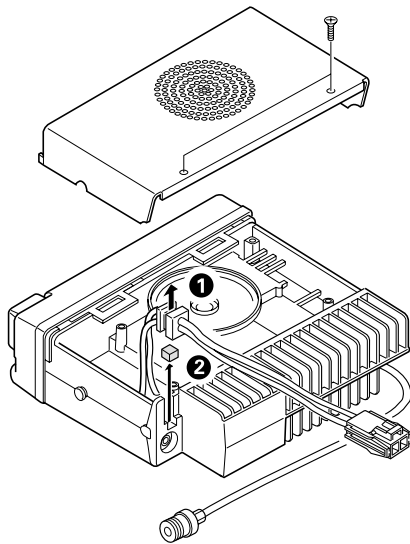
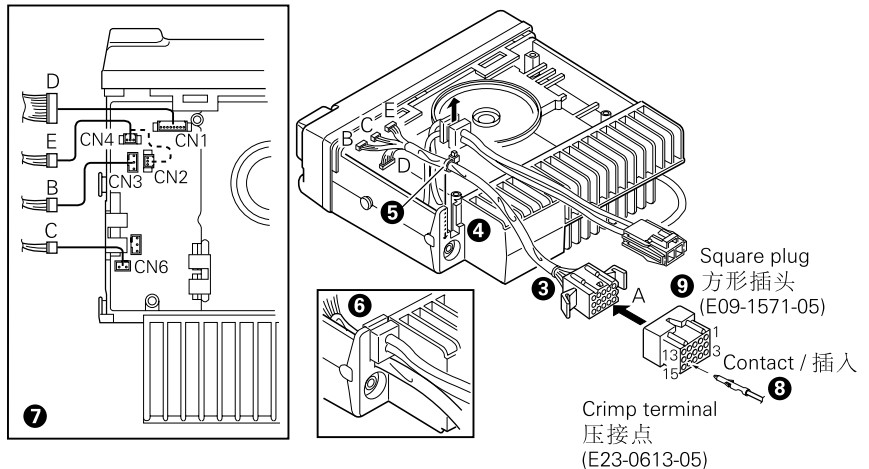

Fig. 1 / 图 1
Fig. 2 / 图 2
1. Remove the upper and lower half of the transceiver case, and lift the DC cord bushing (❶) from the chassis.
2. Remove the pad as shown in Figure 1 (❷).
3. Insert the KCT-19 cable (❸) into the chassis (❹). The wire harness band (❺) must be inside the chassis.
4. Replace the DC cord bushing (❻).
5. Connect the KCT-19 to the TX-RX unit (A/2) as shown in Figure 2 (❼).
6. Connect the KCT-19 to the external accessory by inserting the crimp terminal (❸) into the square plug (❾), both of which are supplied with the KCT-19.
1. 取下车台的上部分机壳。从机架的凹槽上卸下直流电线卡套(❶)。
2. 按图1所示取下垫片(❷)。
3. 将KCT-19电缆(❸)放入机架的凹槽(❹)。固定电缆的金属卡子(❺)必须在机架的内侧。
4. 重新放入直流电线卡套(❻)。
5. 按照图2(❼)所示将KCT-19连接到发射-接收单元上(A/2)。
6. 通过将压接件(❸)插入方形插头(❾)来将KCT-19连接到外置附加设备上。两者均与KCT-19一起提供。